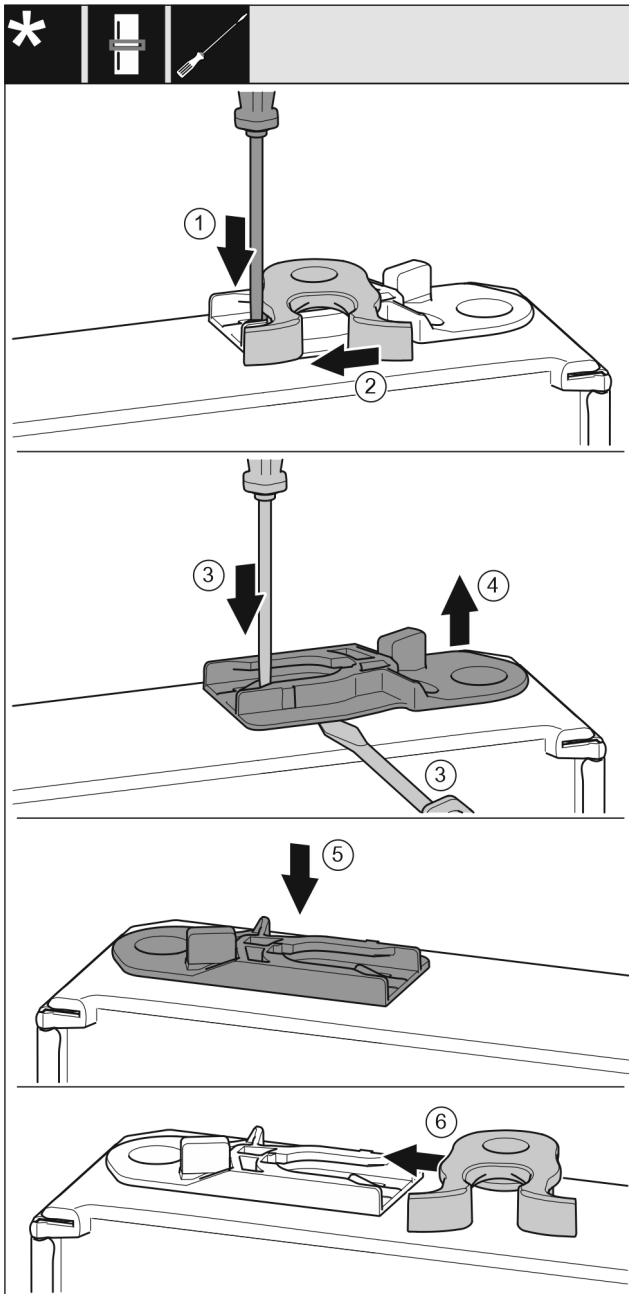

Fig. 19
- ▶ Push the lug downward with a slotted screwdriver. Fig. 19 (1)
- ▶ Pull the door latch out of the guide. Fig. 19 (2)
- ▶ Pull out the guide bush: Press the lug with a slotted screwdriver and, at the same time, insert the slotted screwdriver under the guide bush. Fig. 19 (3, 4)
- ▶ Slide the guide bush included in the scope of supply to the other side of the housing. Fig. 19 (5)
- ▶ Push the door latch into the guide. Fig. 19 (6)